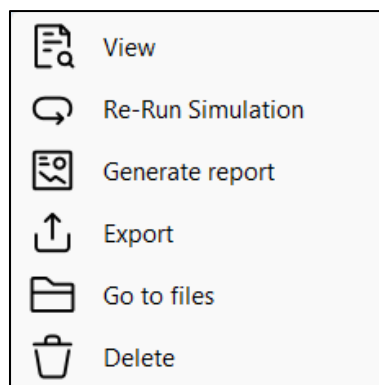

Figure 4-64: Results pop-up menu
- *Module Times* tab: presents the module execution time in a bar chart graph¹⁰. See Figure 4-64.